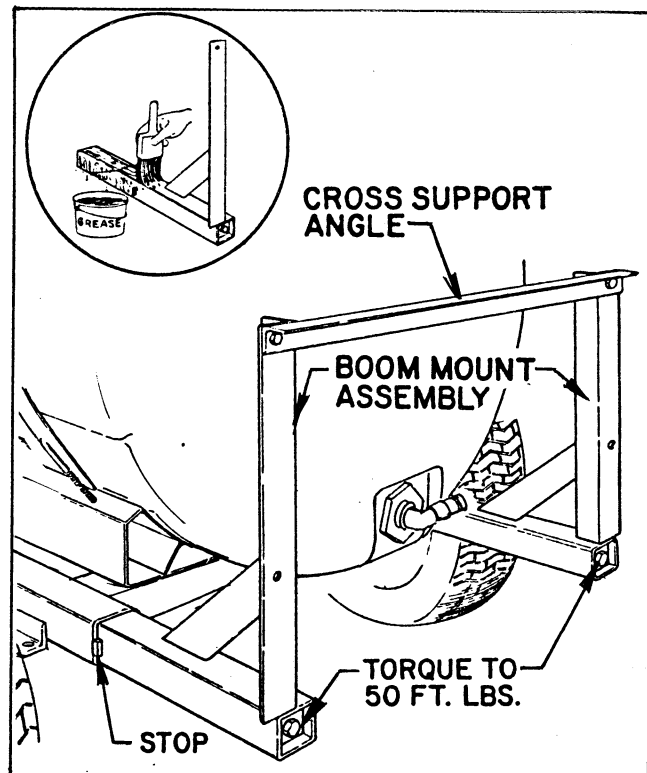

FIG. 6
■ Install the two Boom Mount Assemblies into the Vehicle Frame as shown in FIG. 6. Use a torque wrench to tighten the long (1/4" x 8") screws which join the Wedges to the tubes. Tighten to 50 ft. lbs.
■ Position the Cross Support Angle as shown in FIG. 6 and attach it to the Boom Mount Assemblies with two 1/2" x 1-1/4" hex hd cap screws, and lock nuts.